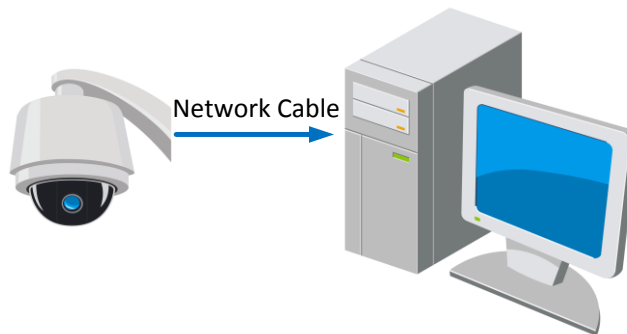

Figure 2-1 Connect Directly
- To test the network device, you can directly connect the network device to the computer with a network cable as shown in Figure 2-1.